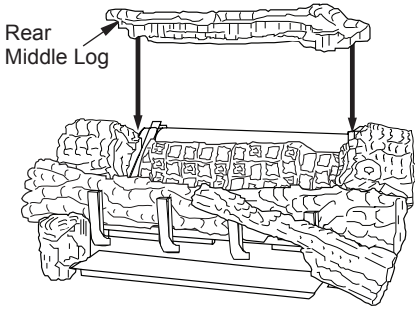

Figure 34 - Installing Rear Middle Log
- The rear middle log should fit between the ramp log and the rear burner. The left and right middle logs have recessed areas for the rear middle log to sit into (See Figure 34, page 19). Be careful not to push the rear burner out of position while installing this log.